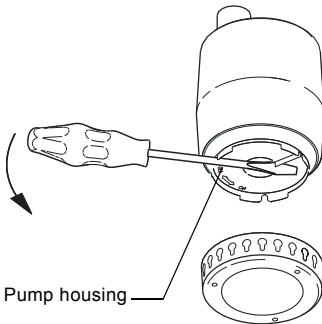

Fig. 12 How to remove the pump housing
4. Pull off the pump housing. See fig. 12.